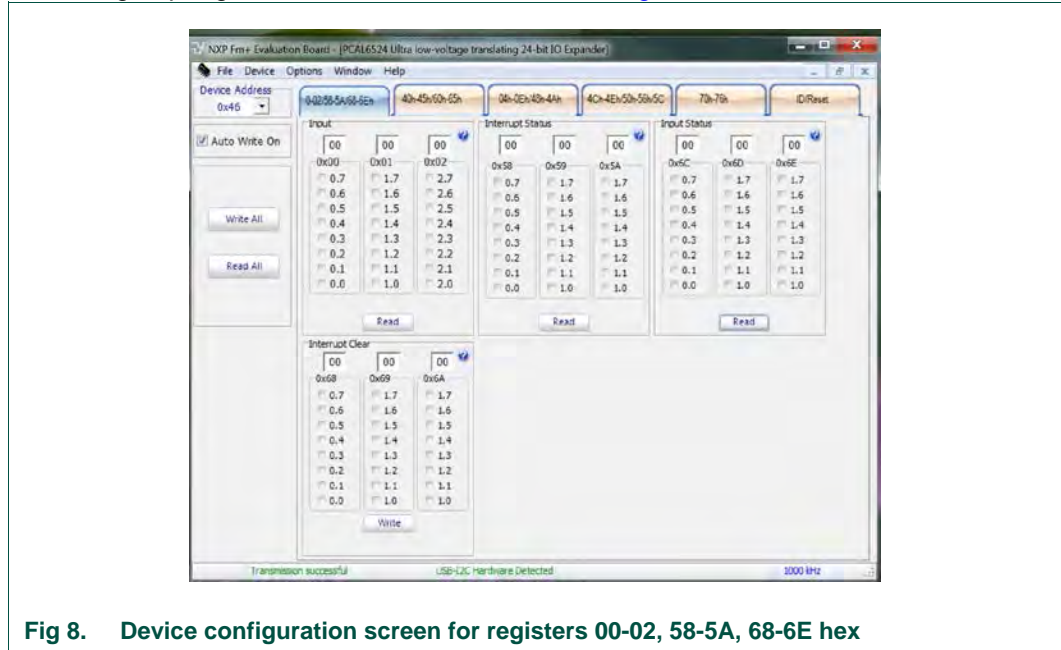

Fig 8. Device configuration screen for registers 00-02, 58-5A, 68-6E hex
2. First group registers read or write are shown in Fig 8.